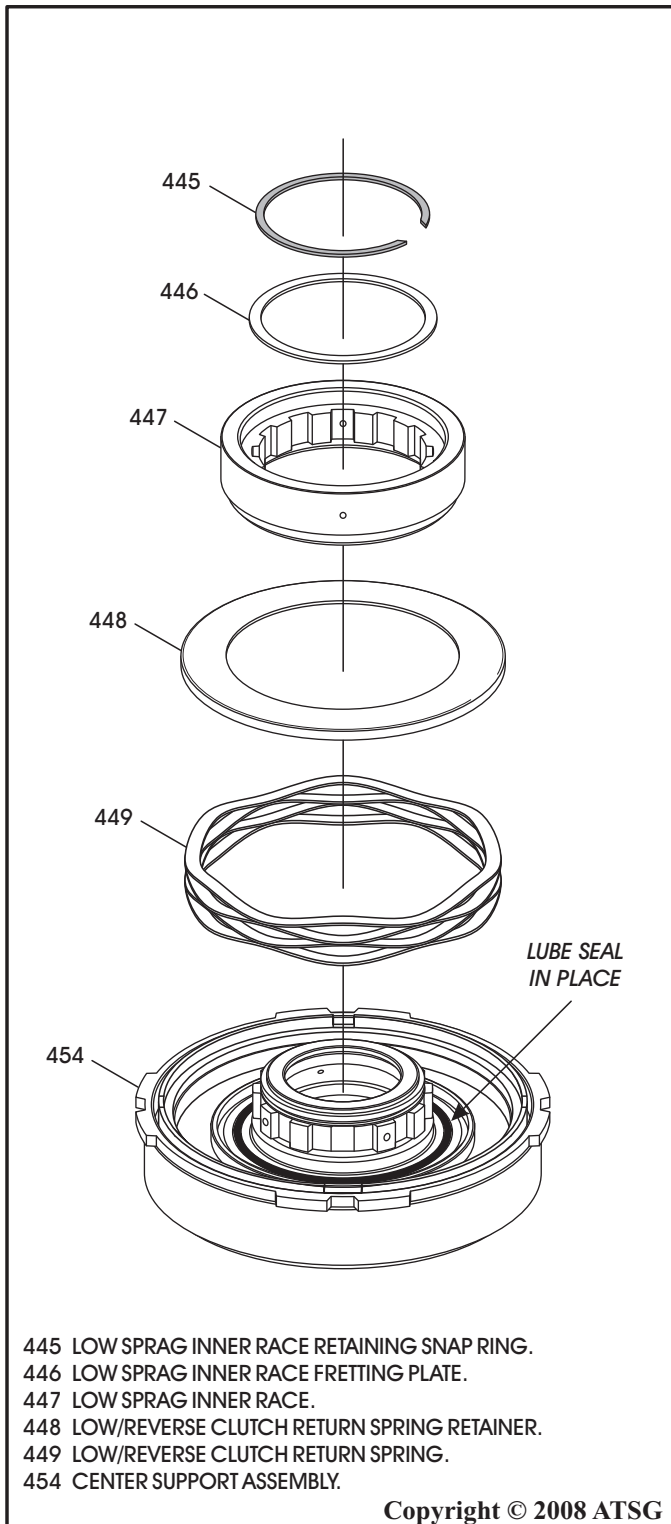

Figure 116
10. Install the low/reverse piston return spring, as shown in Figure 116.
11. Install the low/reverse piston spring retainer, as shown in Figure 116.
12. Install the low sprag inner race onto the splines of the center support, as shown in Figure 116.
13. Install the fretting plate on the low sprag inner race, as shown in Figure 116.